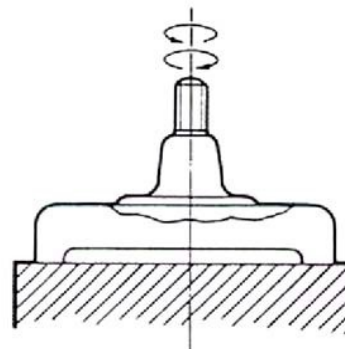

Figure 1
7. Figure 1 shows the various methods for how the lapping plate should contact the valve parts for proper lapping.